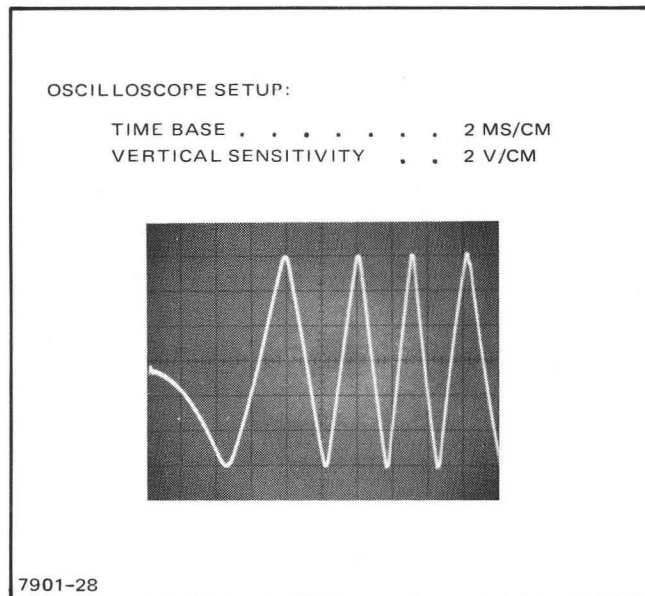

Figure 5-6. Encoder Alignment Waveform
- (1) Adjust the A GAIN variable resistor on encoder assembly A9 for 12 ± 0.5 volts peak-to-peak output. (See figure 5-6.)
- (2) Adjust the A BAL variable resistor on encoder assembly A9 for an equal swing (± 0.5 volts) above and below 0 volts. (See figure 5-6.)